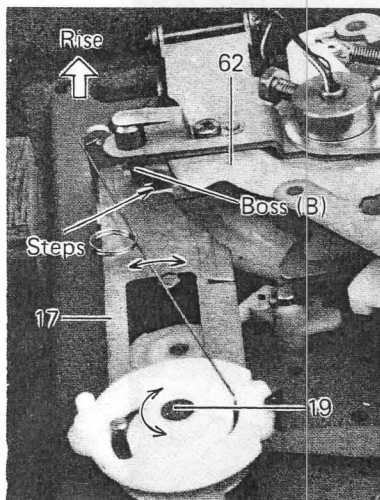

Figure 25
- (1) Rotation of the Select Shaft (19) swings the Stop Lever (17) from right (left) to left (right).
- (2) The Stop Lever (17) has three steps for 7", 10" and 12". The step, selected by the Select Shaft (19), intercepts rotation of the Pickup Plate Assy (62) at another Boss (B) on the Pickup Plate Assy.
- (3) At the start, the Turn Plate catches the Boss (A) and turns the Pickup Plate Assy to be intercepted by the Stop Lever and Boss (B).
- (4) The Tone Arm stops and waits the descend time of the Stop Lever at this position. (Figure 25)